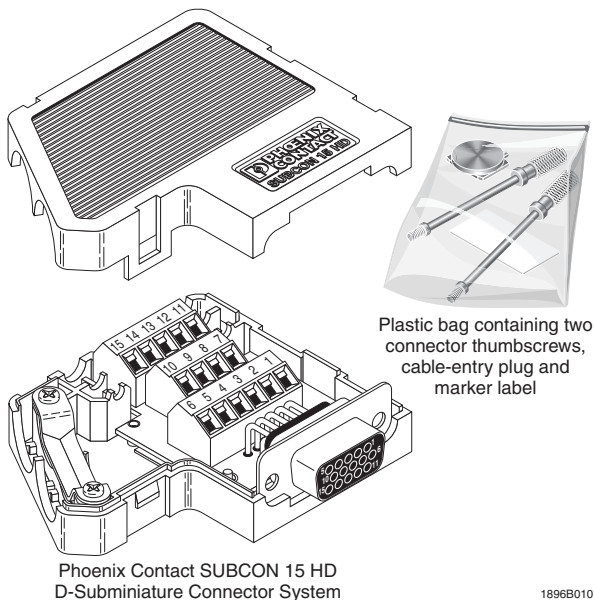
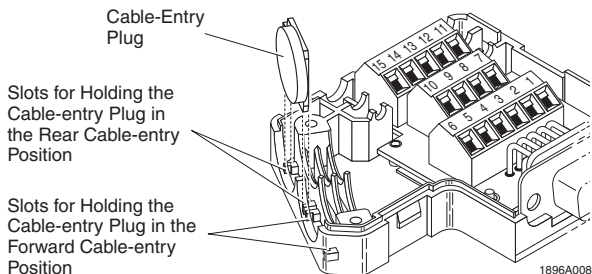

Figure 1. Packaged Items for the SUBCON 15 High-density, D-subminiature Connector
Figure 11. Installing the EMI Cable-Entry Housing Plug
This SUBCON 15 high-density, D-subminiature connector was inspected prior to shipment. After connector is unpacked, inspect all items for possible damage that may have occurred during shipping. Contents applicable to the SUBCON 15 high-density connectors are shown in Figure 1. If physical damage or missing items are found, notify Phoenix Contact, Customer Service at 1-800-322-3225 for instructions.
6. Obtain the cable-entry plug from the plastic bag that came with the SUBCON 15 HD connector. Refer to Figure 1. Then carefully install the plug as shown in Figure 11.
1. Obtain the blank connector identification label from the plastic bag that came with the SUBCON 15 high-density connector. Refer to Figure 1.